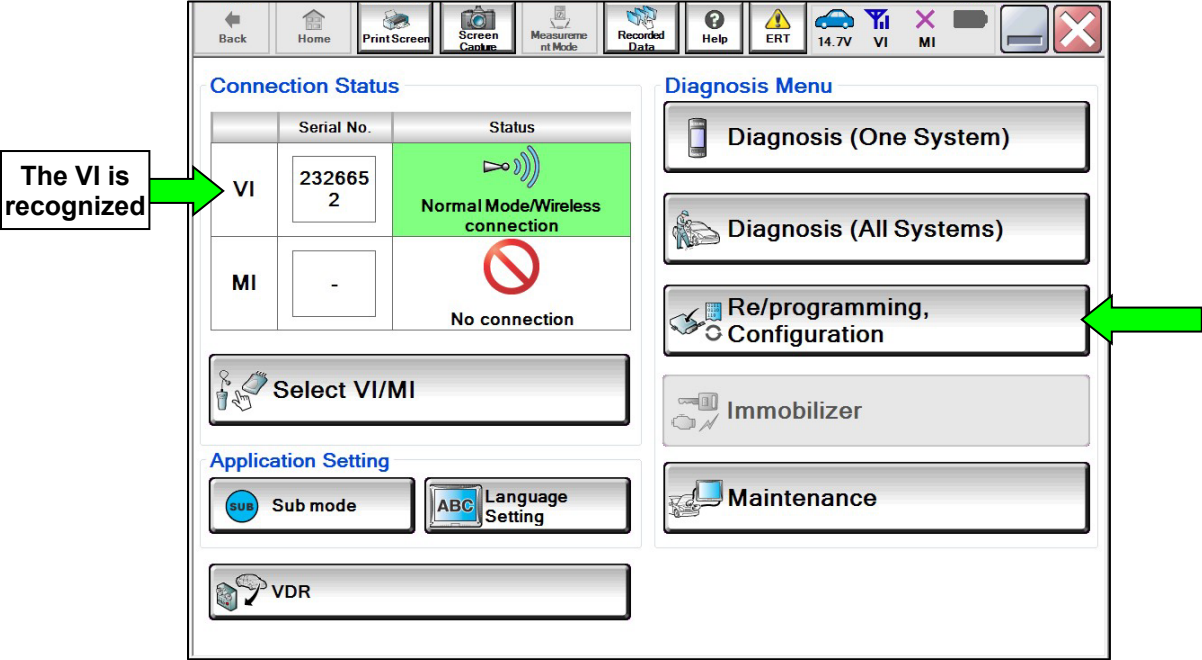

Figure 11
20. Wait for the VI to be recognized (Figure 11).